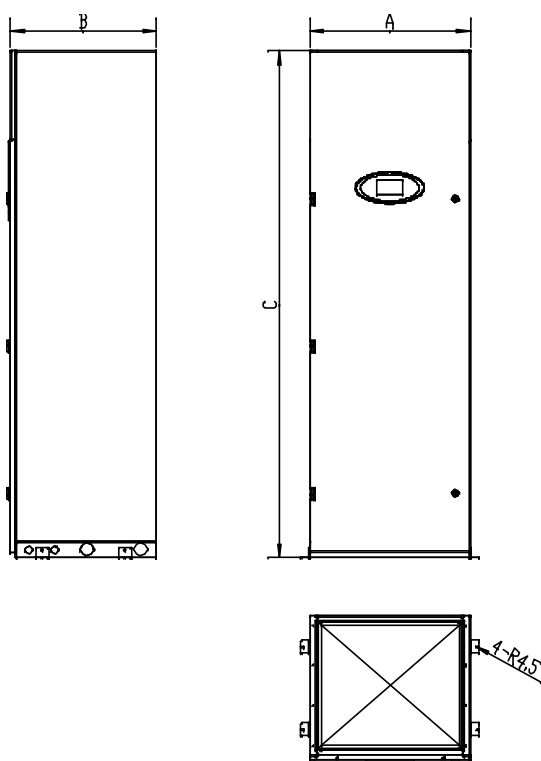

Fig.2-2 (a)Outline Dimensions of indoor units of the downflow CyberMate6005/6007/6012
- Outline Dimensions of indoor units of the downflow CyberMate6005~6020 are seen in Fig.2-2.